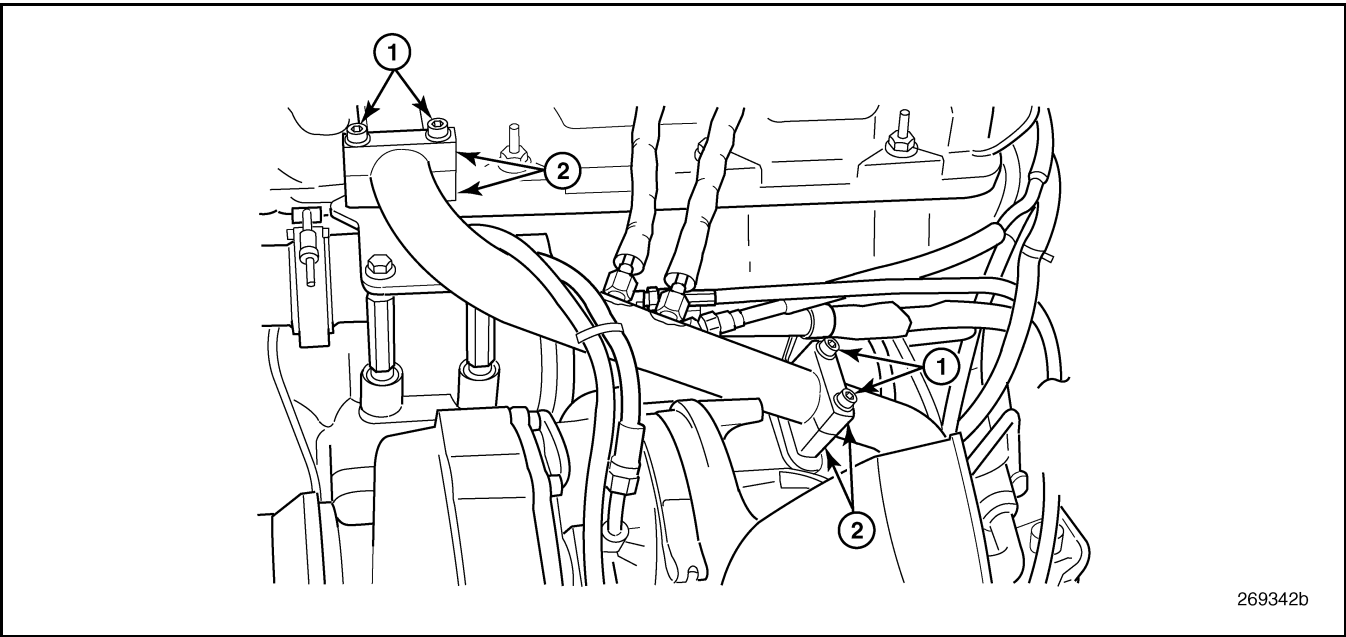

Figure 433 — Cool Tube Clamp Installation
4. Install the clamps and mounting bolts to secure the cool tube to the mounting brackets at the EGR valve and the front exhaust manifold (Figure 433). Tighten the bolts to 96 lb-in (11 N·m).